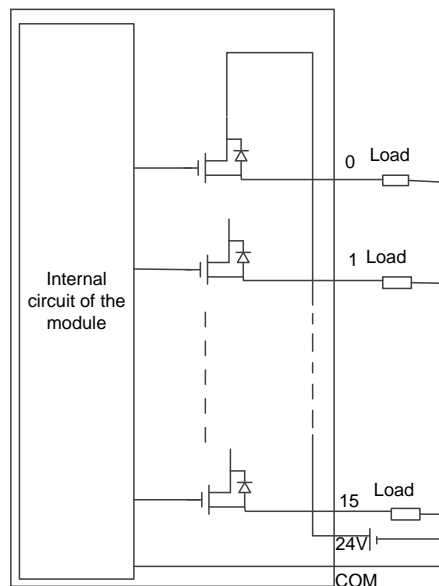

Figure 5.16 Terminal wiring
- For current input, connect V+ to I+ in short circuit mode, as shown in figure 5.16, and ensure the current input is within the range.